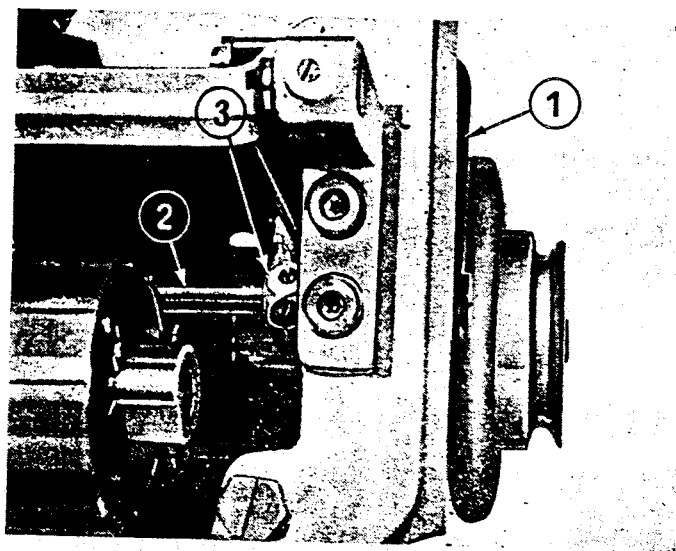

Fig. 25
Then, remove the feed lever (Fig. 25 ①). To do this, remove the tension spring which is hanging in the hole of the top cover, tilt the machine and by loosening the 2 set screws of the feed lever shaft bracket (Fig. 25 ③), which is attached to the feed lever shaft, remove the end screw of the feed lever shaft (Fig. 25 ④). After that, with the lever in attached condition, pull out the lever shaft.